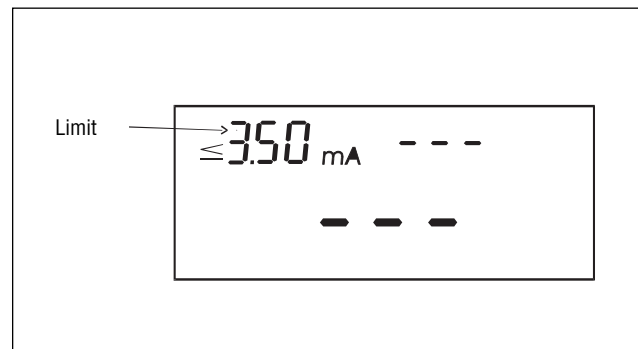

Fig.7.18
- Connect mains cable of UNITEST MACHINEmaster to an operational mains socket. Switch on measurement appliance. Set switch Measurement Function to position IPE SUBS. (See Fig. 7.18).